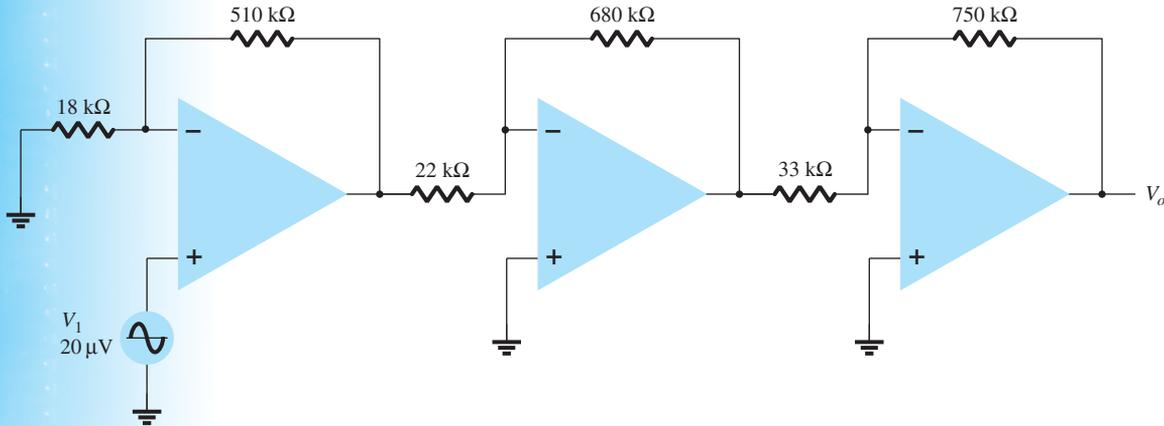

FIG. 11.49
- *3. Calculate the output voltage in the circuit of Fig. 11.49.